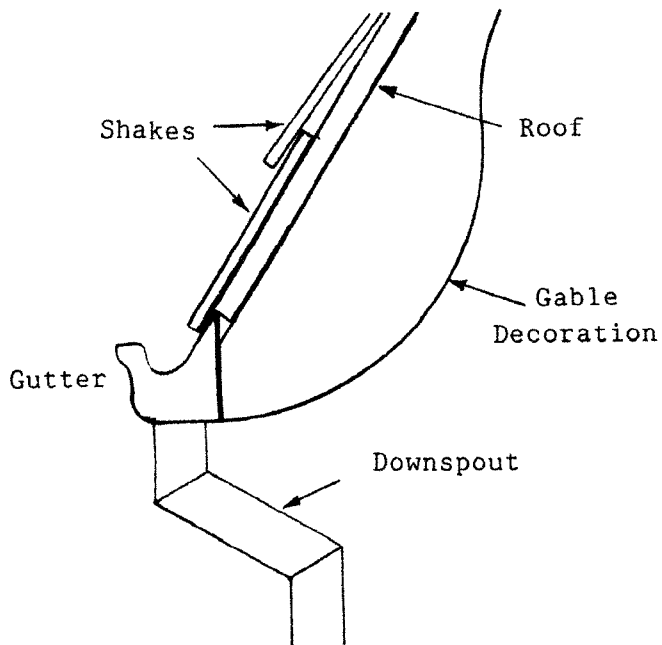

Figure 32
2. Add downspout (Part No. 5-143) to the gutter. Figure 32.